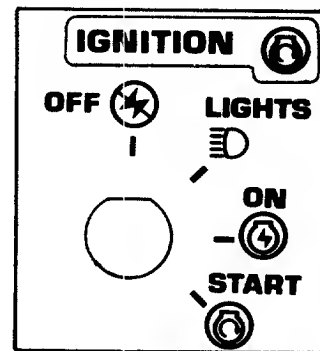

FIGURE 2.
6. Turn the ignition key to the START position. As soon as the engine starts, let the key return to the ON position. See figure 2.